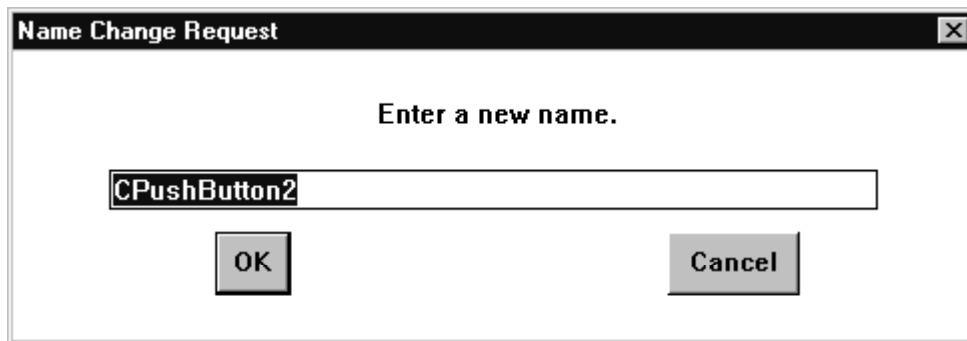

Figure 43. Name Change Request window for a push button part
3. Select **Change name**. A Name Change Request window is displayed. Figure 43 shows a Name Change Request window for a push button part.